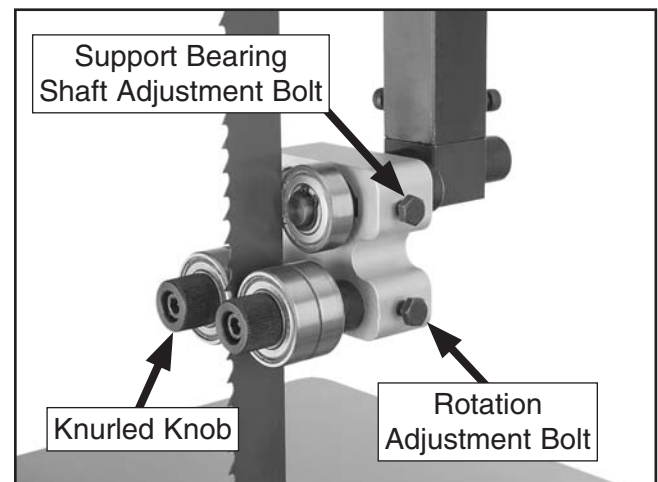

Figure 32. Front upper blade guide controls.
3. Familiarize yourself with the upper blade bearing controls shown in **Figures 32–33**.
- Loosen the support bearing shaft adjustment bolt and the lateral rod adjustment bolt (see **Figures 32–33**).